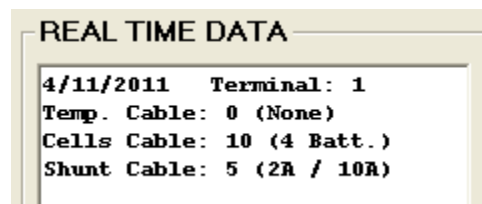

Figure 46 - Screen showing information on cables detected
- Note that when connecting this cable, the C-Scan will recognize it as cable #10 – see [Figure 46]